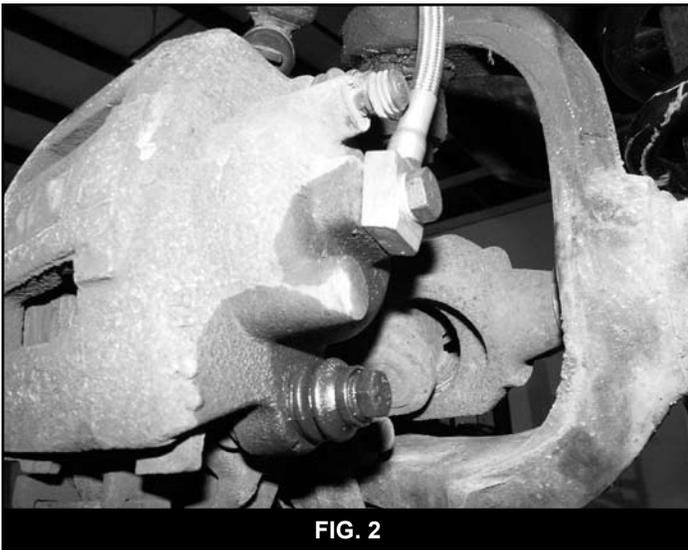

FIG. 2
16. Install lower portion with provided new crush washers. Note: One washer is required on EACH side of the fitting. Brake line must face up after installation. (Fig 2) Torque bolt to 20 ft-lbs.